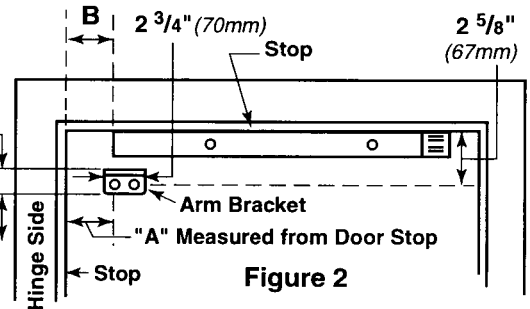

Figure 2
6. Close the door and place unit against bottom of stop (see Fig. 2).
12. Mark the bracket hole locations on the door (see Fig. 2).